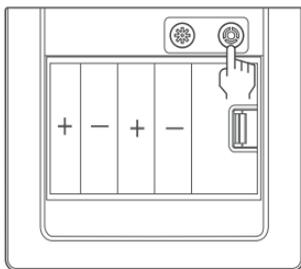

Figure 4
2. As shown in Figure 4, press the black safe mode button '⊗' on the battery compartment and there will be a voice prompt 'Safe mode is on', indicating successful activation. Press the button again can turn 'Safe mode' off.